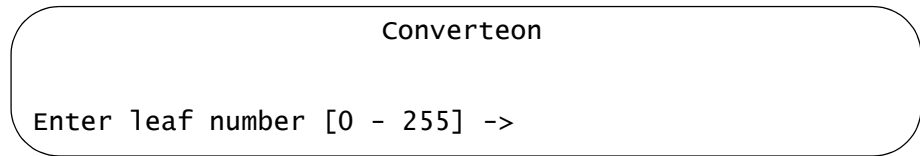

Figure 119. Enter Leaf Number Prompt
6. Enter the branch number of the MIB package or object to be returned. The range is 0 to 255. The prompt in Figure 119 is displayed.